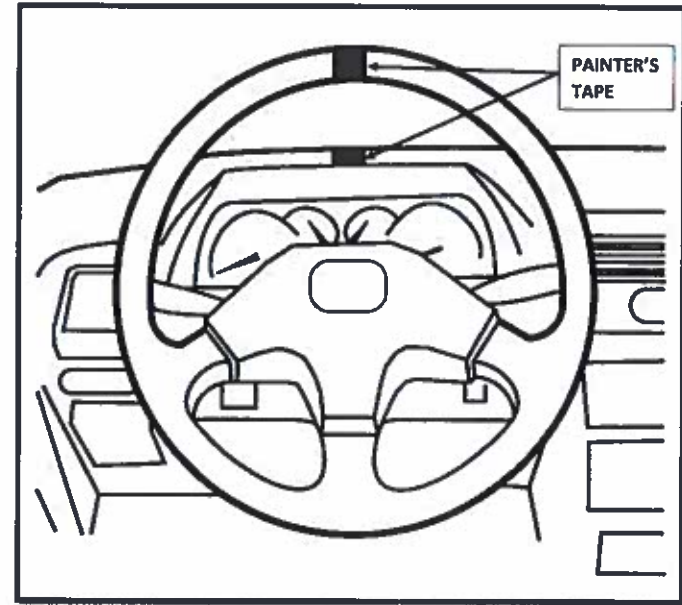

Figure 6. Tape Application to Steering Wheel and Dashboard
- One person must hold the steering wheel so that the wheels remain in the straight ahead position, while the second person steps outside the vehicle to adjust the SAFE T PLUS® unit. If second person is not available, place a strip of painter's tape on the top center of the steering wheel, and place a strip on the dashboard above the instrument cluster, directly in line with tape on steering wheel before exiting the vehicle (Figure 6).